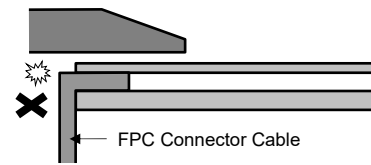

Fig.7
**g. FPC Connector Cable (Fig.7)**